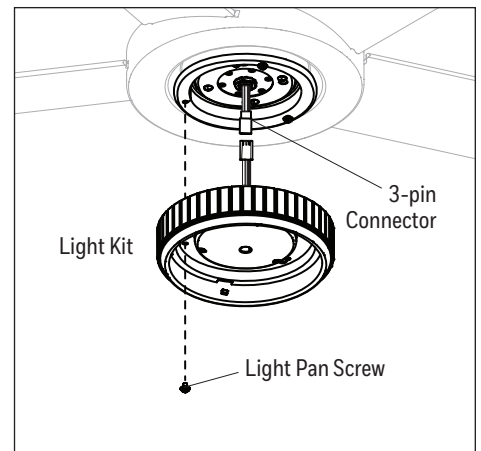

Figure 5.5
5. Remove one of the three light pan screws from the light pan and loosen the other two but do not remove. Connect the 3-pin connector from the light pan to the 3-pin connector from the light kit. Lift the two keyhole slots in the light kit over the two loosened light pan screws and turn in a clockwise direction. Then, use the previously removed light pan screw to secure the light kit to the light pan. Tighten all screws (Figure 5.5).